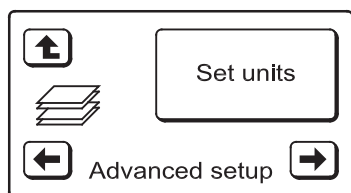

FIG. 71
4. Press the RIGHT (→) button twice to display the screen shown in Figure 71.